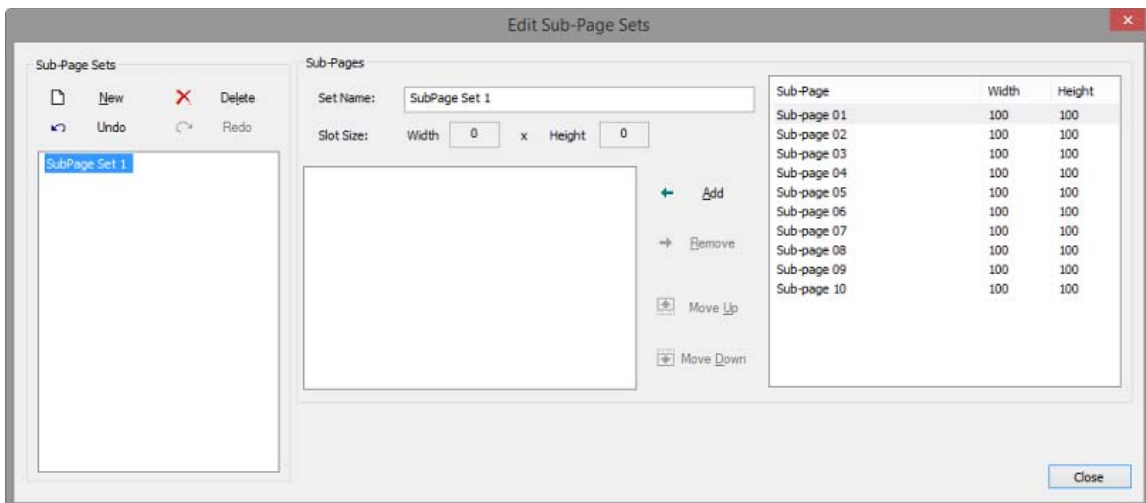

FIG. 110 Edit Sub-Page Sets dialog - "SubPage Set 1"
5. The new Sub-Page Set is indicated in the *Sub-Page Sets* list in the *Edit Sub-Page Sets* dialog (FIG. 110):